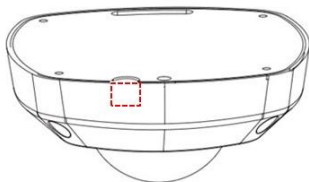

Figure 2-19 Side Clip
1. (Optional) Use a plier to remove the clip (marked in dotted line in Figure 2-19) on the side of the back box and then route the cables through the opening instead of the cable hole.